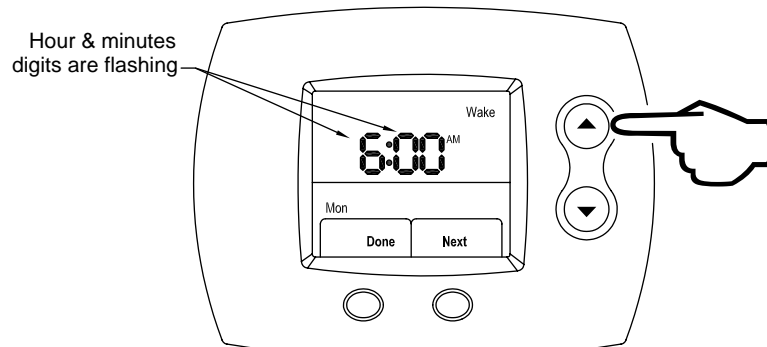

Figure 121
Step 4: Press the **UP** (increase time by 15 minutes) or **DOWN** (decrease time by 15 minutes) buttons until the wanted time is shown. This is shown in Figure 121.